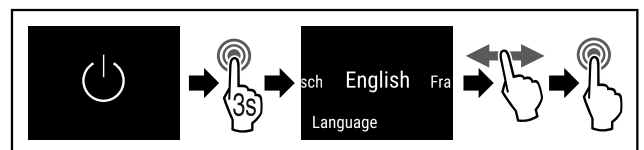

Fig. 49
- ▶ Complete steps (see Fig. 49).